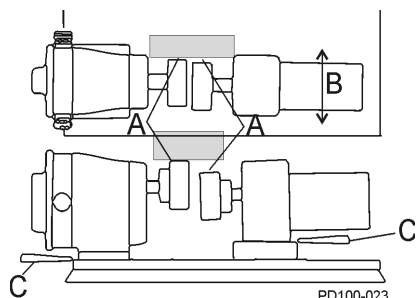

Figure 20 - Check Parallel Alignment
2. Using a feeler gauge at location "A" in Figure 20, determine the direction and amount of movement needed (Figure 20, item B).